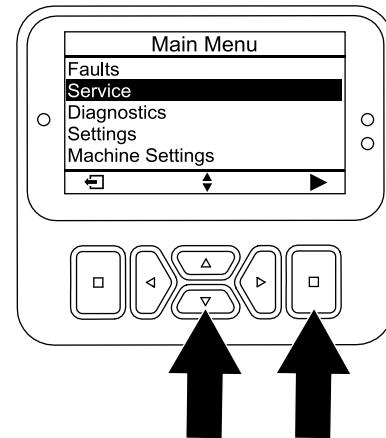

Figure 119
3. Press the down button until the SERVICE option is selected, then press the select button (Figure 119).